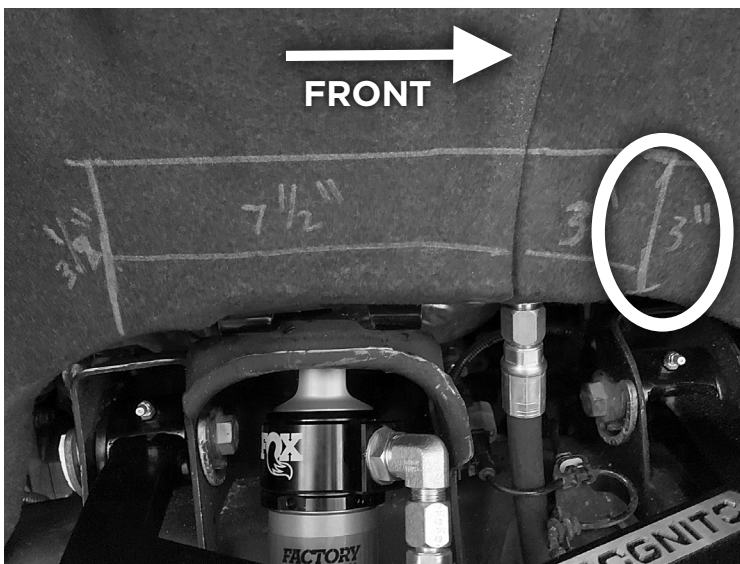

Figure 3: Passenger side shown
6. Using the end of the 3" line you just made, draw a line starting from the bottom of the fender liner that is 3" tall that goes towards the top of the fender liner (Figure 3).